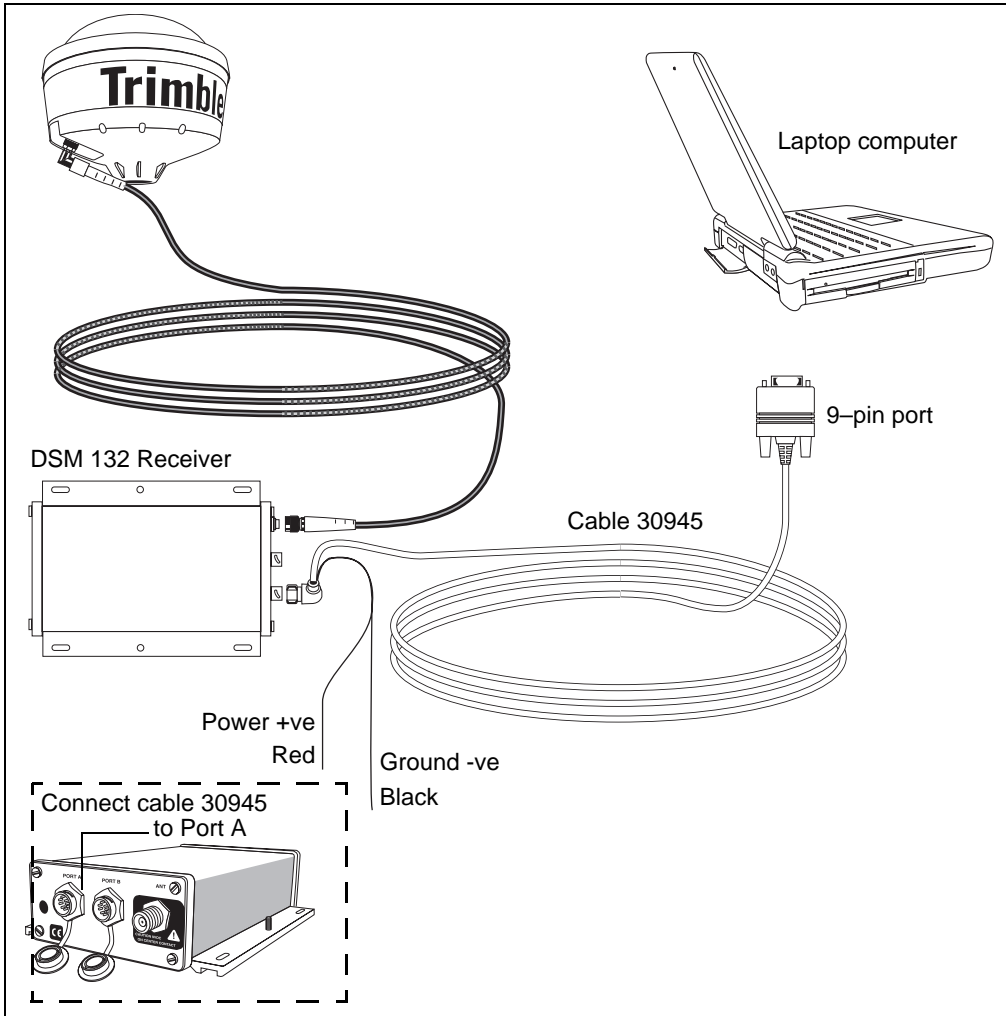

Figure 4.2 Connecting the receiver to an office computer
1. Connect the receiver to the serial port of the office computer, as shown in Figure 4.2.